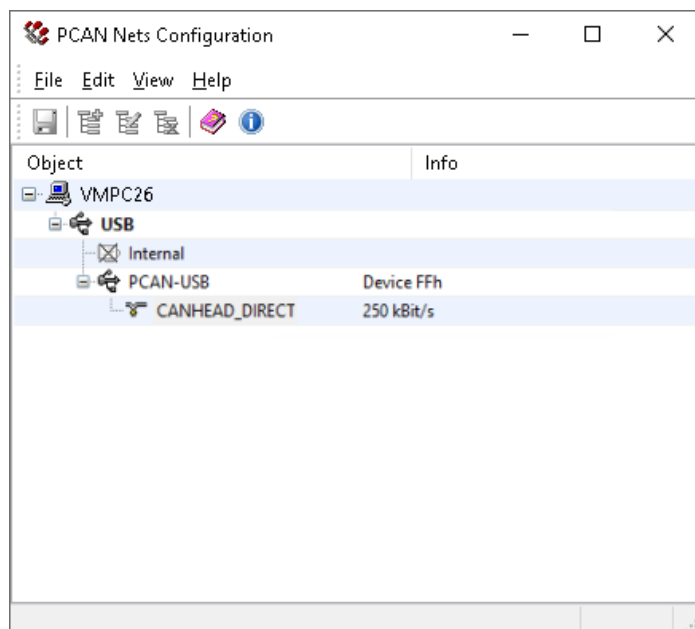

Fig. 3.2: Create a new net.
4. Assign a meaningful name, e.g. **CANHEAD_DIRECT**, see Fig. 3.2.